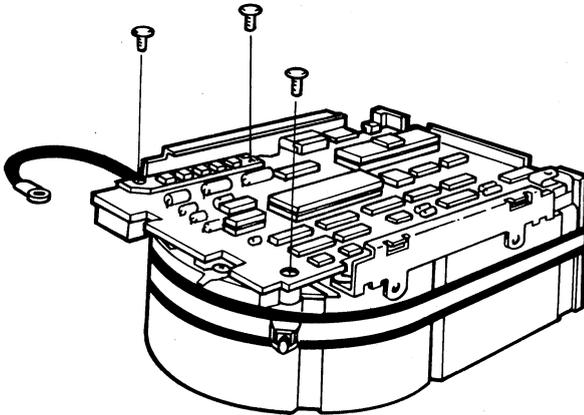

Figure 6-13 Remove Phillips Screws from Heatsink
5. Remove the three Phillips screws from the heatsink, grounding strip, and the corner opposite the heatsink (Figure 6-13).